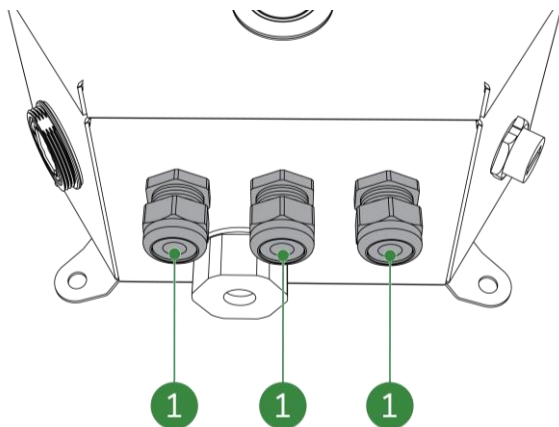

Figure 5-28: Cable glands
2. Guide the 4-20mA and/or RS485 cables each through a free cable gland (Figure 5-28, pos. 1).
5. Tighten the cable gland (Figure 5-28, pos. 1) to prevent moisture and dirt entering the HMI.